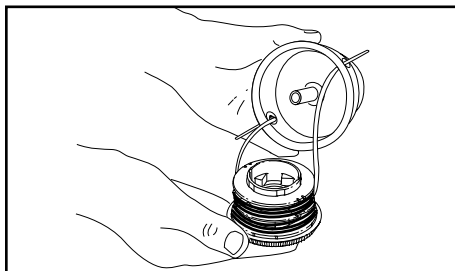

Fig. 23
1. Insert the ends of the two trimming lines into the eyelets in the outer spool (Fig. 23), then grasp the ends and pull firmly to release the line from the holding slots in the outer spool.